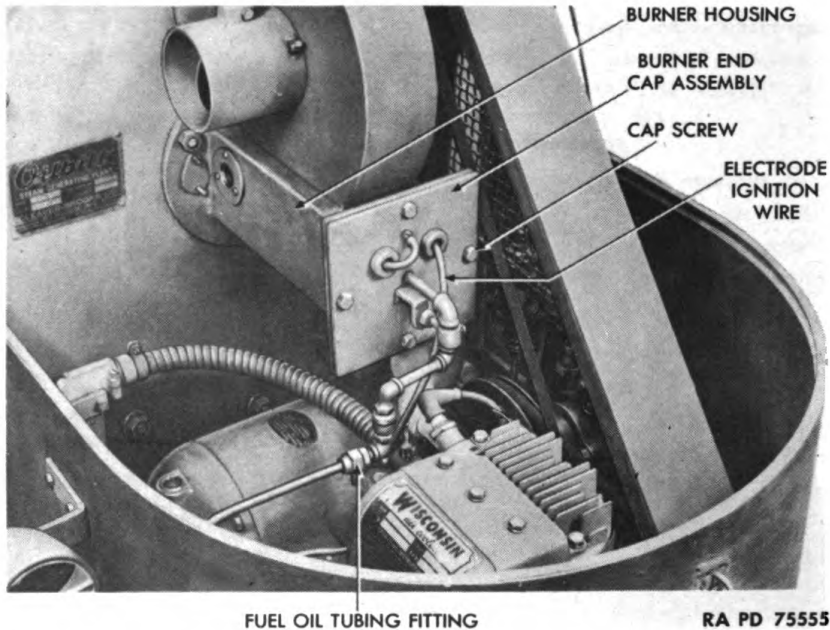

Figure 102 — Burner Installed on Steam Generating Plant
(2) ADJUSTMENT OF ELECTRODES (fig. 102).